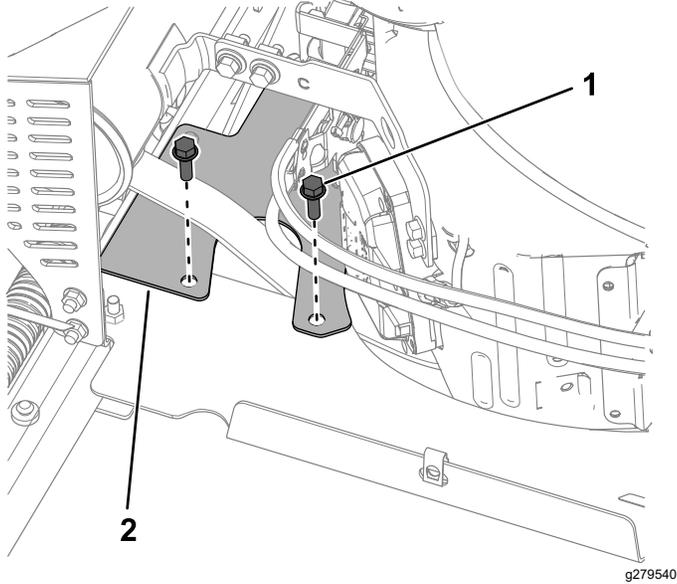

Figure 31
- Remove the 2 bolts (5/16 x 1 inch) and belt guard (Figure 31).
- Install the belt guard as shown in Figure 31. Torque the bolts to 20 to 25 N·m (15 to 18 ft-lb).